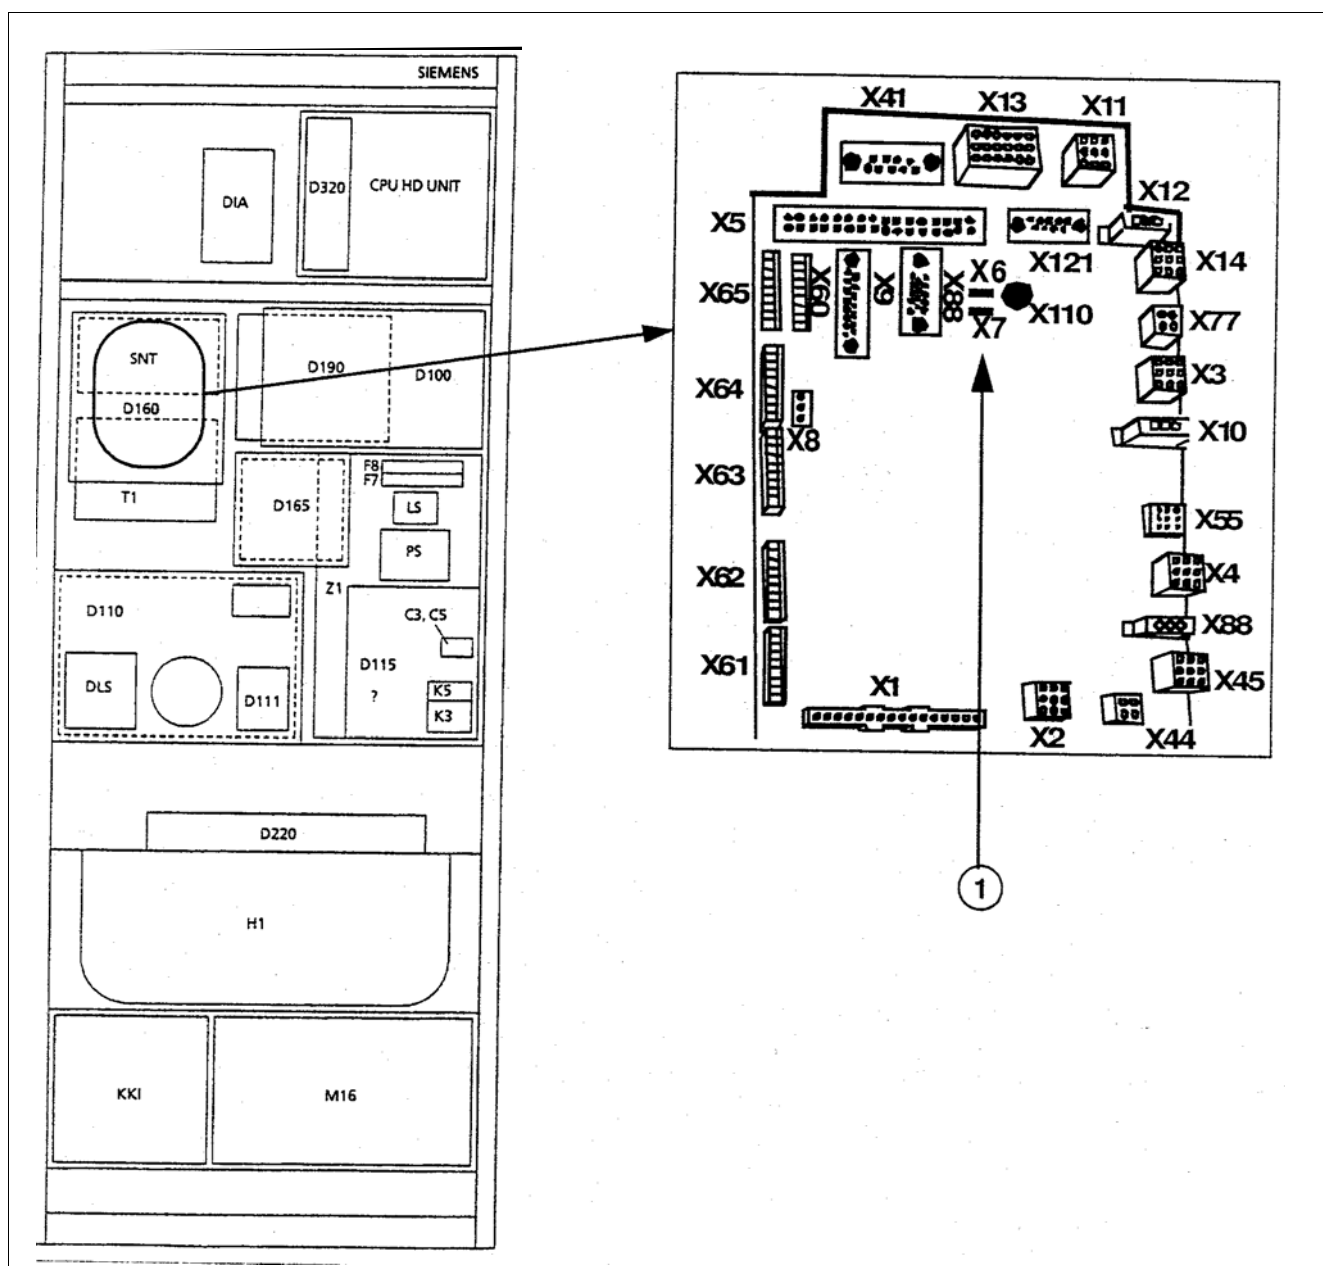

Fig. 5 Polydors SX 65/80 - D160
- Remove jumper X6-X7 (Fig. 5) on D160.
- Measure the resistance between X6 ($0V_L$) and X7 (PE).